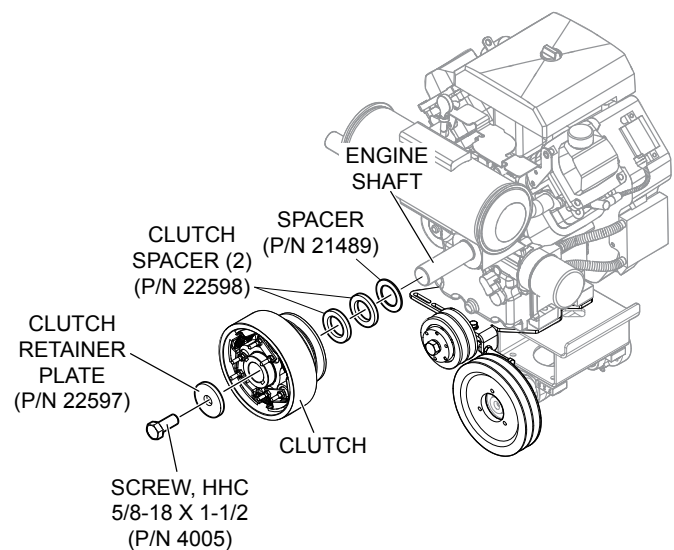

Figure 17. Clutch Assembly Installation
1. Mount clutch assembly and spacers (P/N 22598 and 21489) onto engine shaft using 5/8-18 X 1-1/2" clutch retaining screw (P/N 4005) and clutch retainer plate (P/N 22597). See Figure 17.